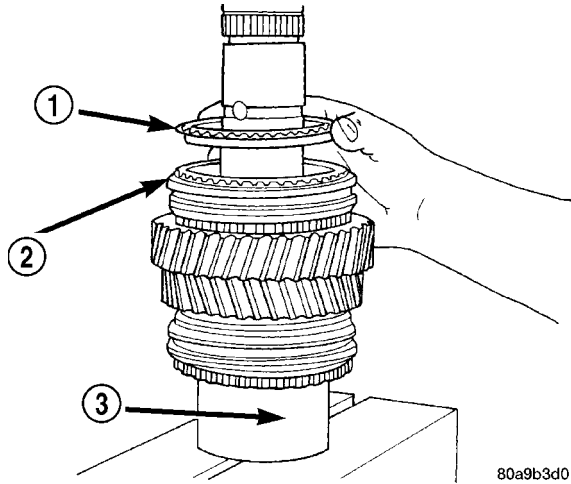

Fig. 68 SECOND GEAR SYNCHRO RING
(19) Install second gear synchro ring in 1-2 synchro hub and sleeve (Fig. 68). Verify synchro ring is properly seated.
(20) Install synchro friction cone and synchro cone in synchro ring.